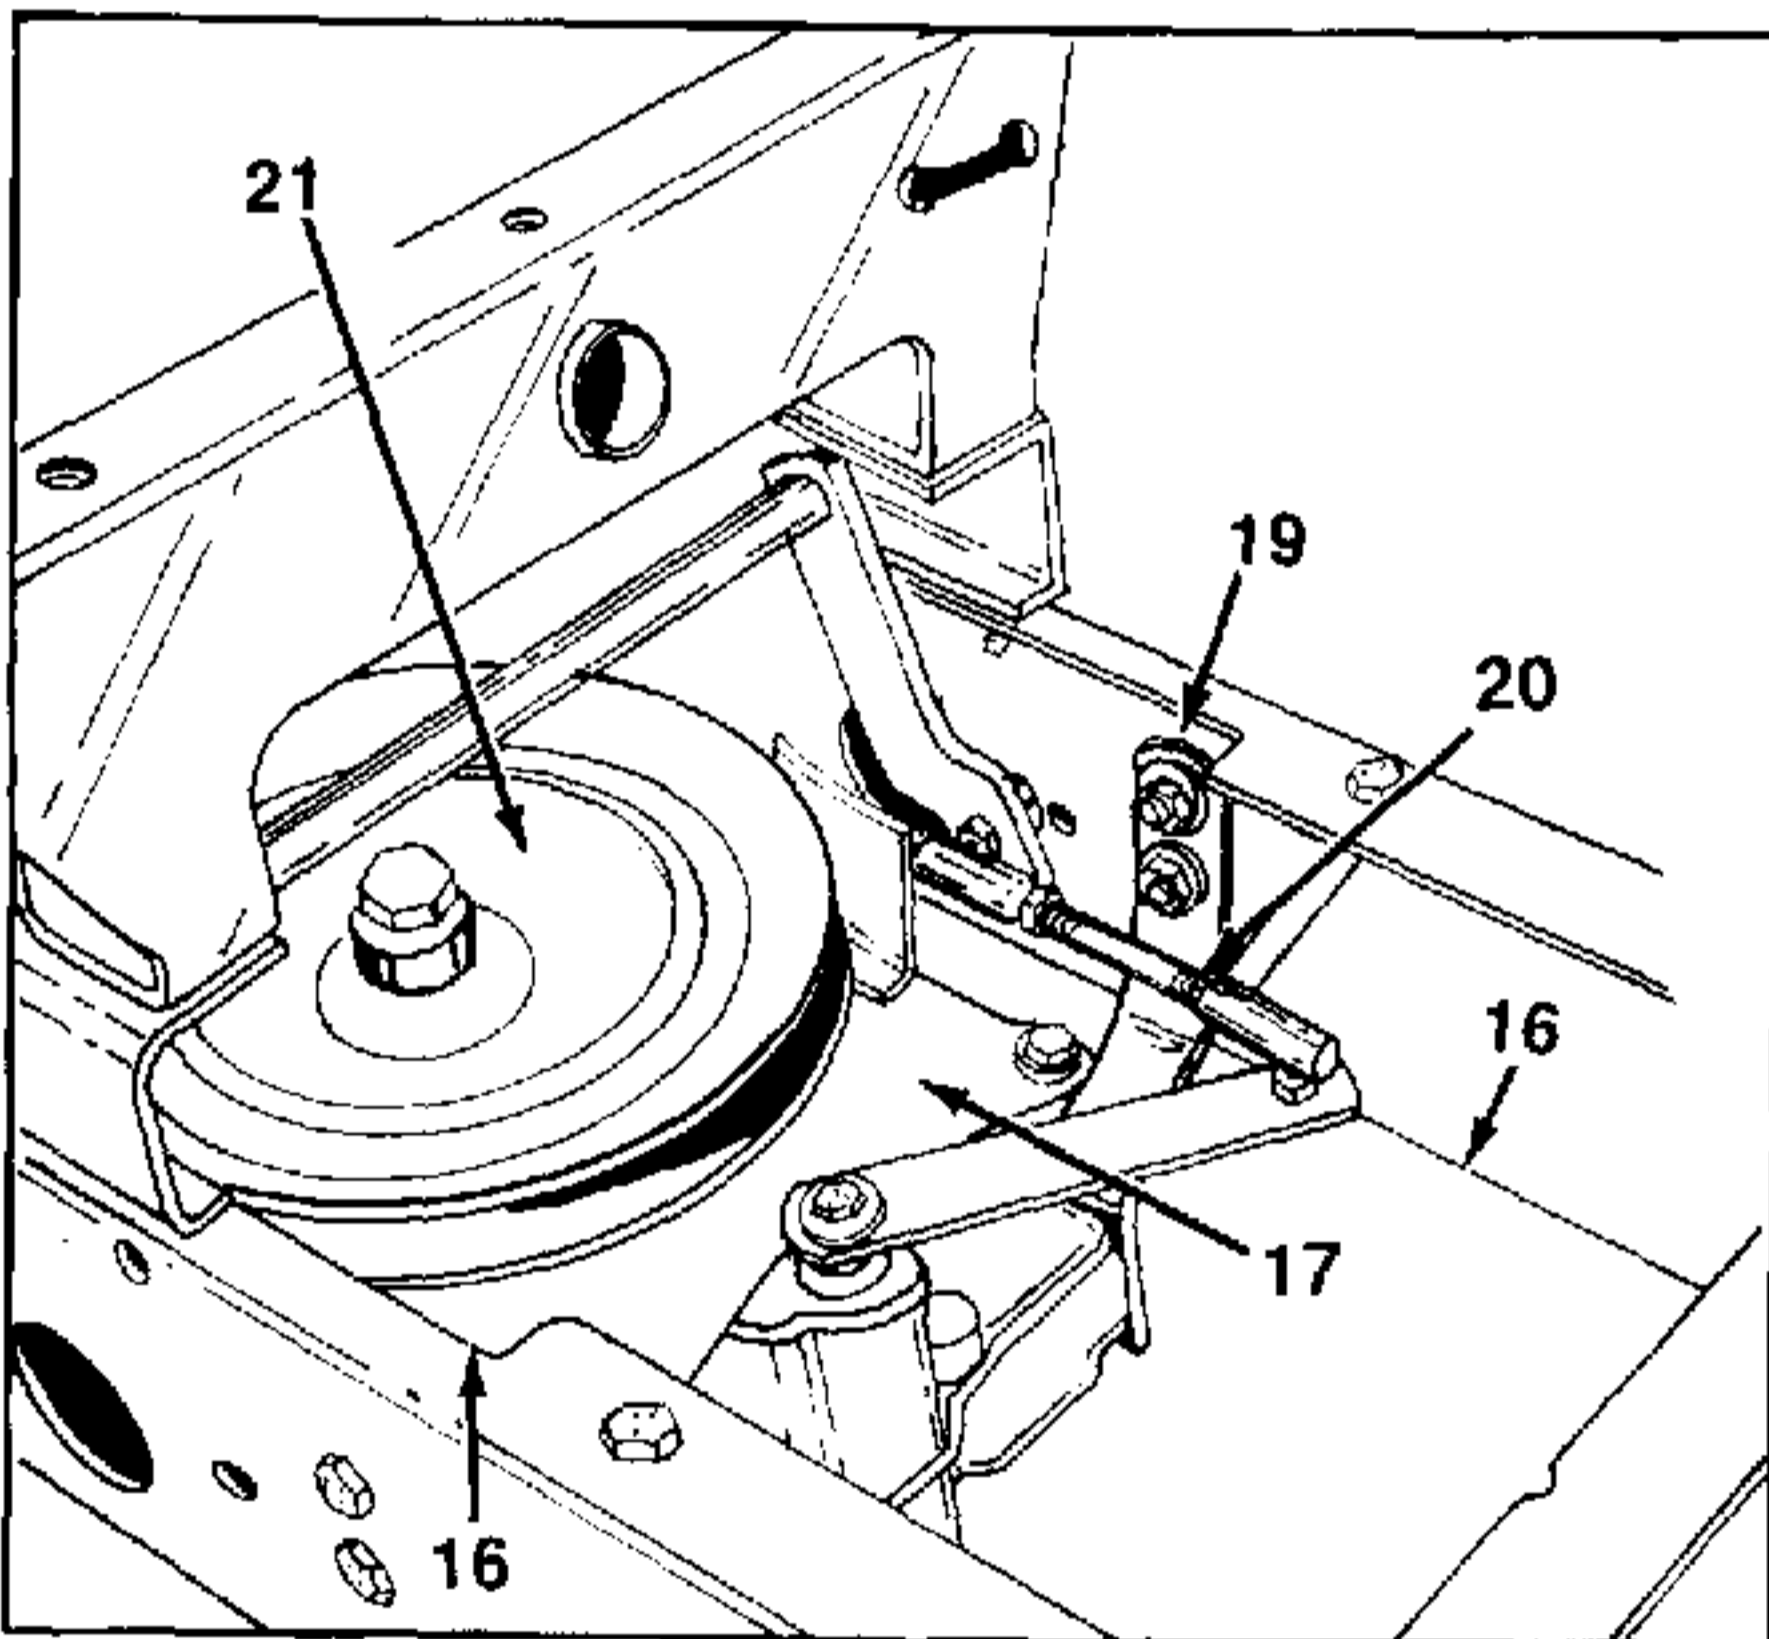

FIGURE 8.
12. Disconnect shift linkage (Ref. 20) at transaxle. See figure 8.
20. Remove the transaxle pulley (Ref. 21) by removing hex nut and washer. See figure 8 on page 2-12.